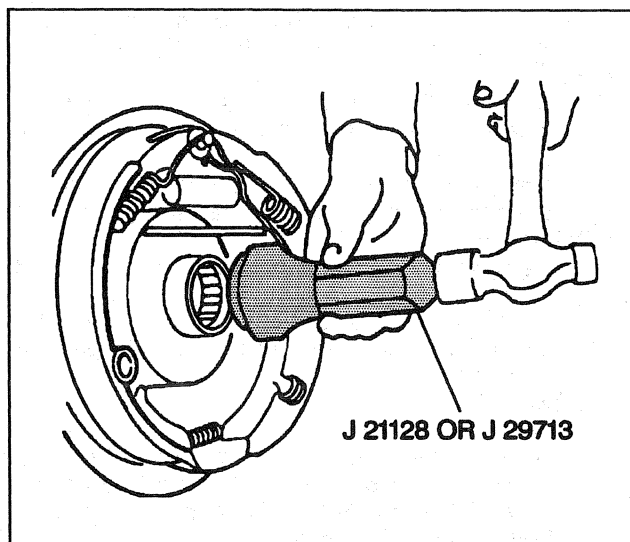

Figure 13—Installing the Seal
- Drive the tool into the bore until the seal bottoms flush with the end of the tube (Figure 13).